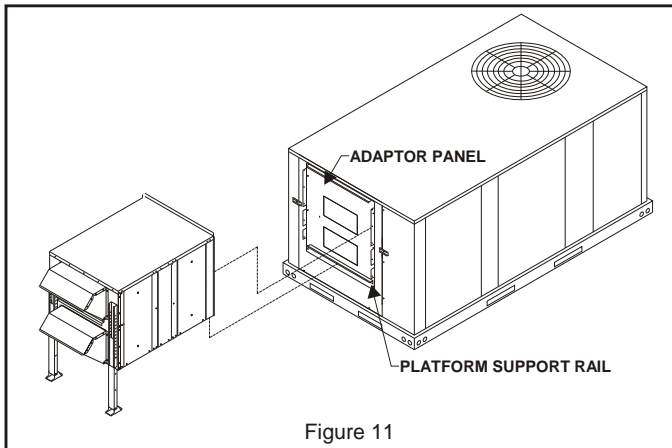

Figure 11
4. Set ERS on platform support rail slide ERS up against adaptor panel. The side flanges of adaptor panel should fit inside the posts of ERS. Secure ERS to adaptor panel using the provided 10-16 x 1/2" screws. **See Figure 11.**
5. Tuck the top flange of the ERS under the rooftop unit top panel and secure with the existing rooftop unit screws. **See Figure 11.**